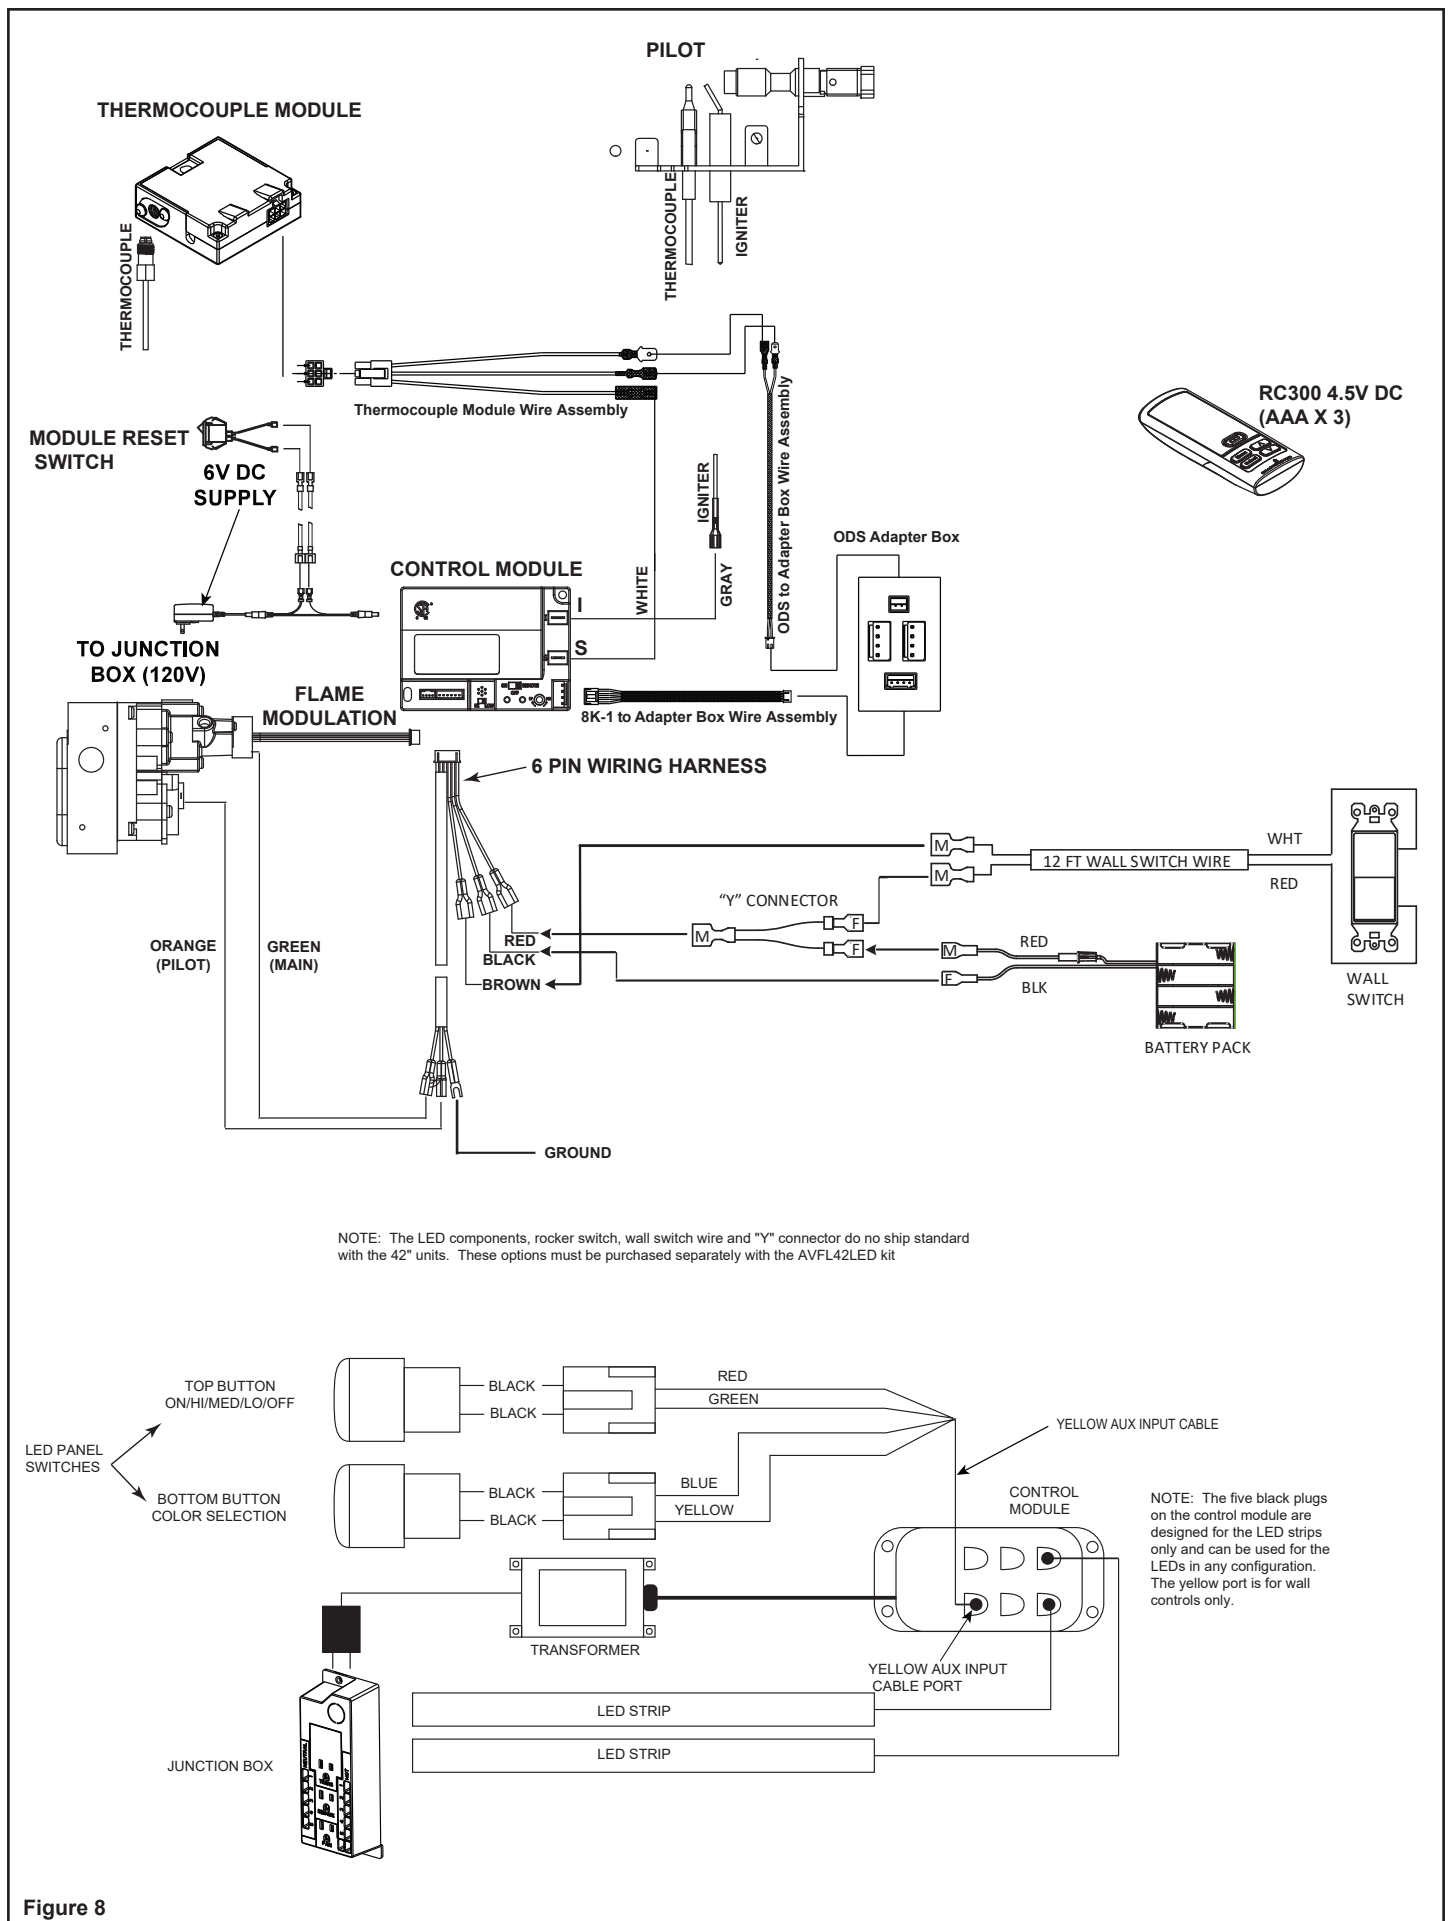

Figure 8
10. Install the aux input cable, wall switch, LED panel switches and wall switch wire. See wiring diagram (Figure 8).